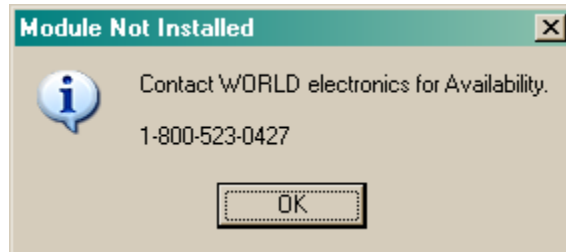

Figure 31
**NOTE:** Only installed FREEDOMWare software will run. If the module selected is not installed a window will appear as in Figure 31 informing the user that the Module is not installed and to contact WORLD electronics. If this window appears and the software was purchased from WORLD electronics, then contact a member of WORLD electronics' technical support staff. If the software was not purchased, it can be purchased by contacting WORLD electronics' Sales Staff. The contact information on both of these departments can be found on Page 2 of this manual.